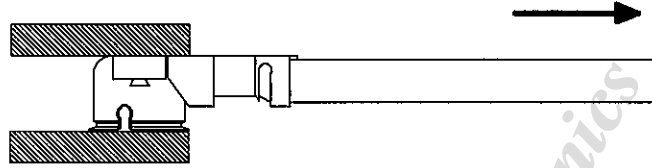

Fig.5
• (2) Crimp strength / 引張強度
A. Testing : Pull the cable as shown in Fig.5 at a speed 25 ± 3 mm/minutes by tensile strength machine.